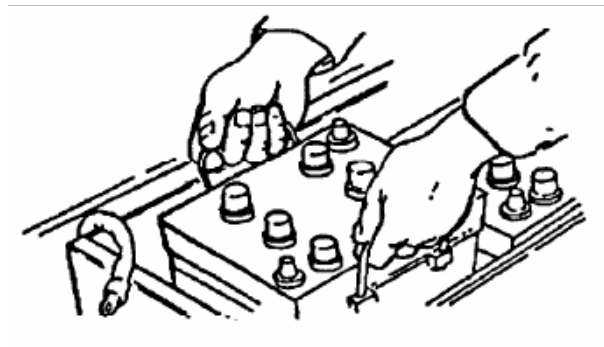

Figure 3-10
- (4) Remove Battery.
- (b) Lift large batteries (4 HN, 6TL, 6TLFP, 6TMF and NBB 248) by carrying handles which are built into the battery casing or cover (See Figure 3-10).